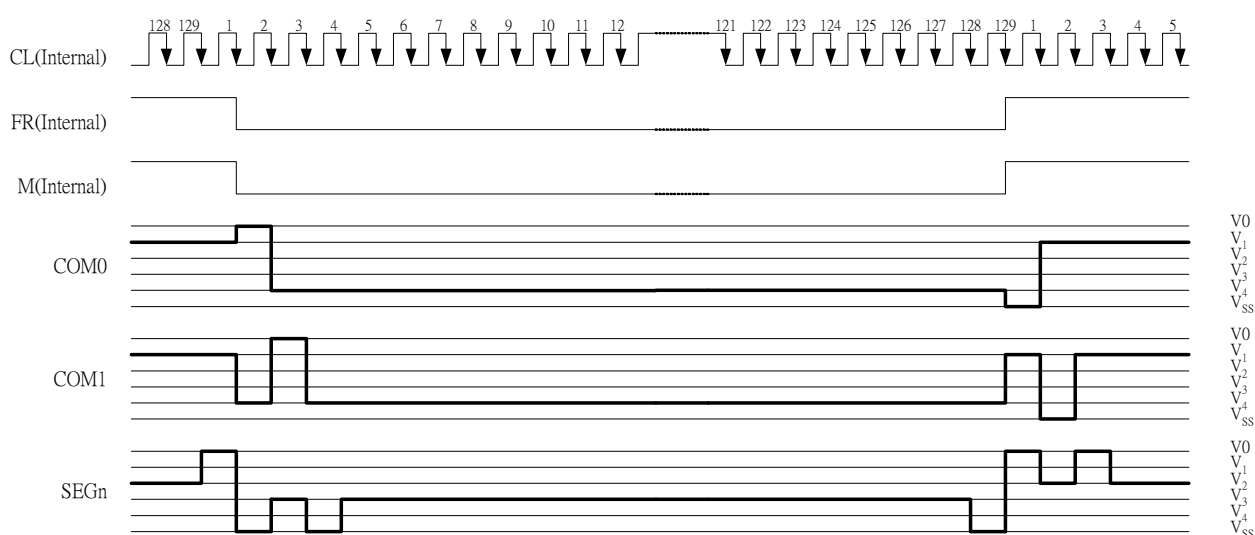

Figure 11 2-frame AC Driving Waveform (Duty Ratio: 1/129)
This circuit generates some signals to be used for displaying LCD. The display clock, CL (internal), generated by oscillation clock, generates the clock for the line counter and the signal for the display data latch. The line address of on-chip RAM is generated in synchronization with the display clock and the display data latch circuit latches the 128-bit display data in synchronization with the display clock. The display data, which is read to the LCD driver, is completely independent of the access to the display data RAM from the microprocessor. The display clock generates an LCD AC signal (M) which enables the LCD driver to make an AC drive waveform, and also generates an internal common timing signal and start signal to the common driver. The frame signal or the line signal changes the M by setting internal instruction. Driving waveform and internal timing signal are shown in Figure 11.